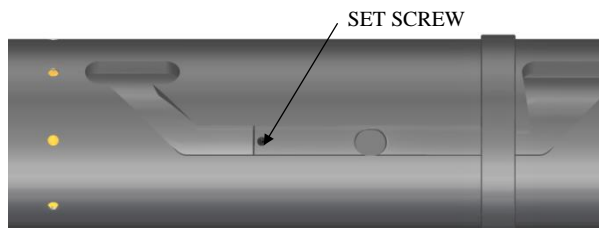

Fig. 7
K-1.19) Rotate J-body (20) as needed to position J-pin of J-pin bottom sub (23) along J-slot to access threaded holes (Fig. 7). Screw set screw (31) into J-pin bottom sub (23).